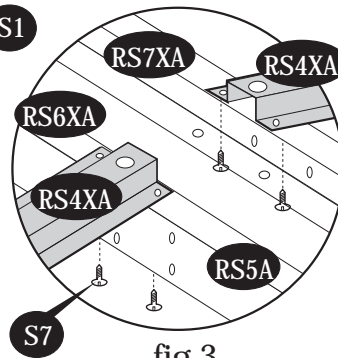
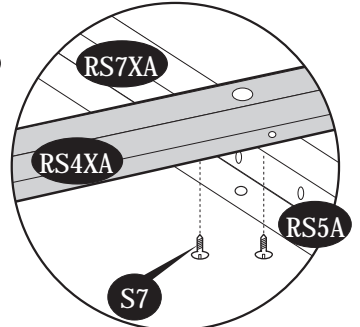

fig.3
fig.4
27. Attach the roof structures (RS4A) one end to roof structure (RS3SA) with (S1) screws. see fig. 1 & 2. Fix the other end to roof structure (RS6A) & (RS7A) with (S1) screws see fig. 3. Fix the middle portion to (RS6A) & (RS7A) roof structure with (S1) screws. See fig. 4.